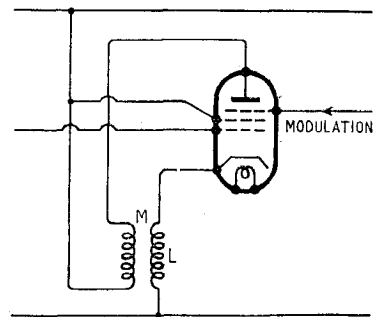
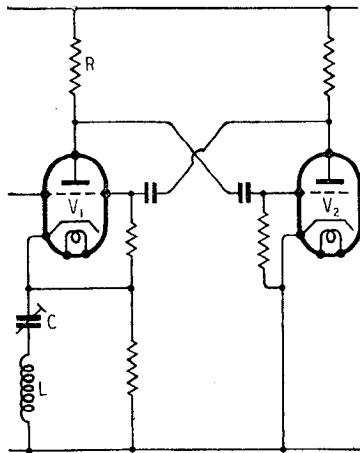

Fig. 2. The effective cathode load of this valve is  $(L + M \frac{I_a}{I_k})$  and it can be modulated by the suppressor grid voltage.
Fig. 3. An oscillator in which the tuned circuit elements are in series with a valve.
Fig 2 shows how this principle
*Proc. I.R.E.*, Oct., 1935) and this is most easily arranged by the circuit shown in Fig. 3. Here the resistance  $R$  develops a voltage proportional to the current flowing in  $L$  and  $C$ , which is phase-inverted by the second valve and applied to the tuned circuit by cathode-follower action in the first valve, so as to increase the current and excite oscillations.
But the second valve in this circuit is merely serving to invert the voltage, like the second valve in the familiar Franklin oscillator, and it can be quite satisfactorily replaced by a phase-inverting auto-transformer to give the circuit of Fig. 4 which is otherwise similar to Fig. 3. This transformer consists of a coil tuned to the central oscillation frequency and tapped so as to give a small gain, but heavily damped by a shunt resistance so that it cannot introduce undesirable phase-shifts, so tending to control the oscillation frequency, and reduce the range of frequency modulation obtainable.
The completed frequency-modulated oscillator combines the mutual inductance modulation principle shown in Fig. 2 with either of the oscillator circuits of Figs. 3 and 4. The two valve circuit is slightly easier to make up, in practice, but the more economical single-valve circuit is shown in Fig. 5 and it will be seen that a mutually inductive coil in the anode of a pentode is used to modulate the effective value of the main tuning inductance without disturbing the oscillatory circuit seriously.